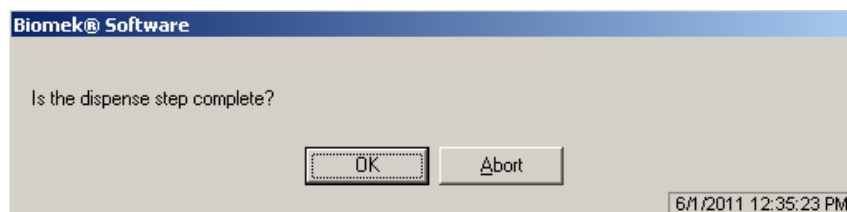

Figure 4. Dispense complete prompt.
1.1.4.2 After the dispense step the instrument will pause and display the prompt shown in Figure 4.